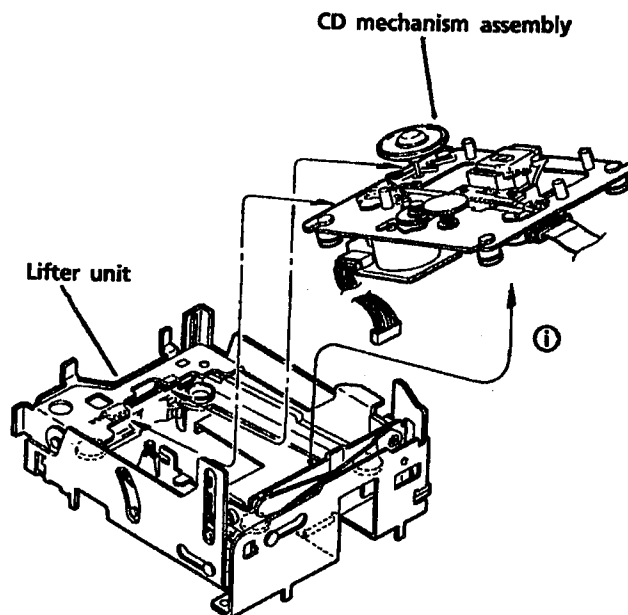

Fig. 31
2. Lift the CD mech. ass'y toward the direction ① to remove it from the lifter unit. (See Fig. 31.)